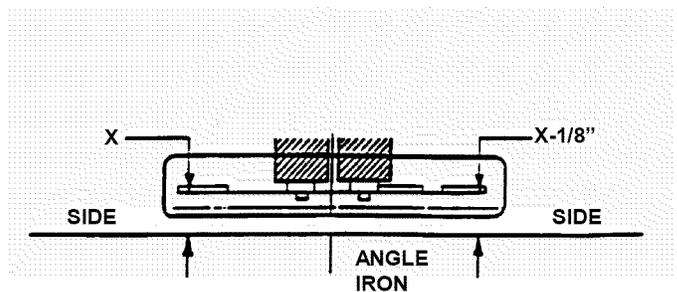

FIGURE 4.4
3. Rotate outside blades so tips are pointed to the sides of deck. See Figure 4.4. Measure the distance from blade tips to floor. If the measurement is within $1/8$ " from side-to-side, the deck levelness is satisfactory. If the difference from side-to-side is greater than $1/8$ ", continue to Step 4 for adjustment.